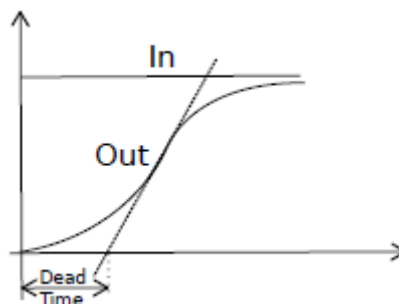

Figure 2: *How to estimate dead time of a second-order system*
- Lambda tuning requires us to measure the process dead time, this can be performed as illustrated in figure 2 and on page 197 in Thomas. First, find the steepest part of the step response curve. Second, draw a tangent to this part of the curve. Last, measure the
Estimate the dead time and time constant as illustrated in Figure 2, also estimate the amplification and then get A_m and ω_π from Matlab. Use the following matlab commands to calculate A_m and ω_π .